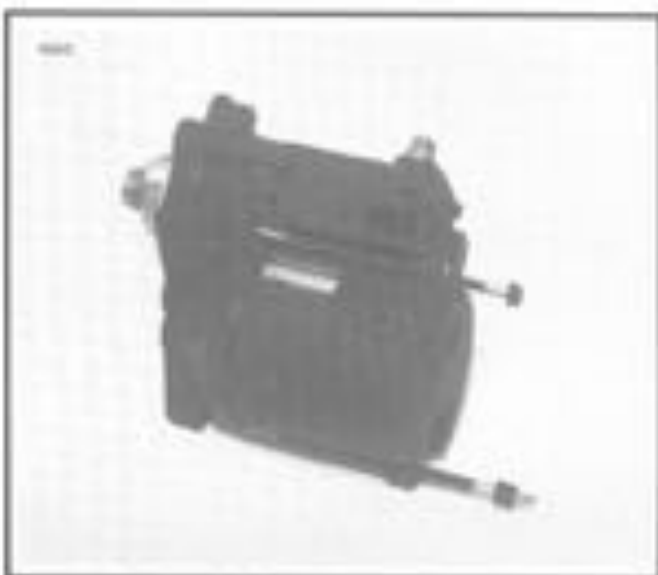

Figure 5-9. Removing the Thru-Bolts
1. See Figure 5-9. Remove field wire (22).
2. See Figure 5-9. Remove thru-bolts.